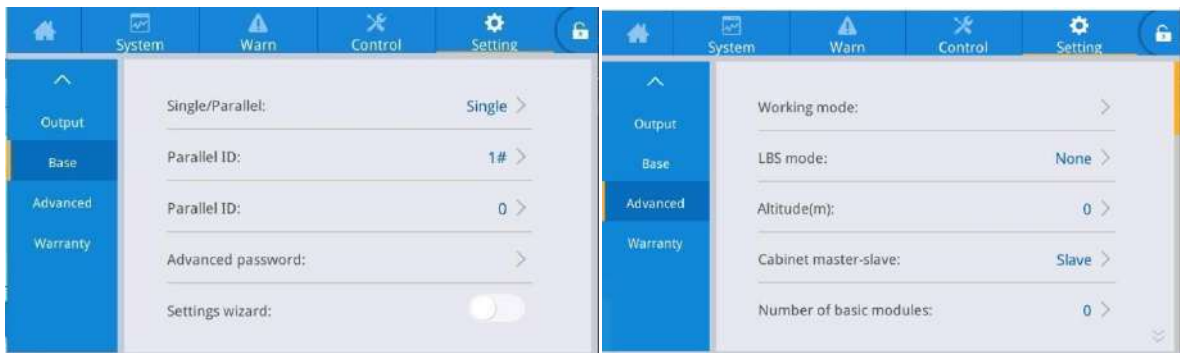

Fig. 4-8 Parallel parameter setting interface
2. Set 1, 2, 3 and 4 in turn in the [cabinet number] of the setting interface of basic parameters. The parallel operation of at most 4 UPSs is supported, as shown in Fig.4-8.
3. Set the number of UPS in the parallel system in [number of system stands] of the basic parameter setting of the setting interface, as shown in Fig. 4-8.
4. Set one UPS of the parallel system as master and other UPS as the slave in the [rack master-slave setup] of the advanced parameter settings in the settings interface. The master-slave refers to the communication master-slave of the rack, that is to say, one UPS is the host for monitoring communication, and the other UPS are the slave for monitoring communication. The parameters of other UPS can be set on the communication host, and the slave automatically synchronizes the parameters of the master (for the independent battery pack, the battery parameters will not be synchronized), as shown in Fig. 4-8.